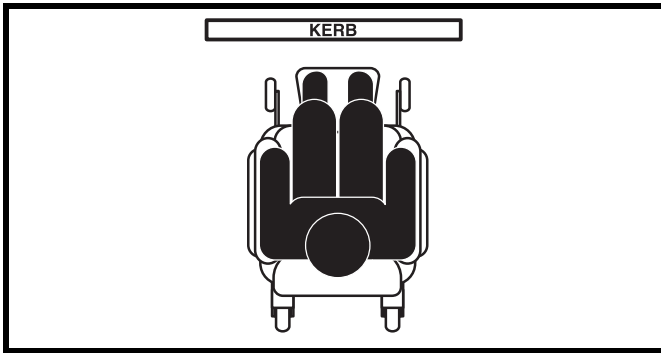

Figure 2. Correct Kerb Approach
Proceed with extreme caution when driving near raised surfaces, unprotected ledges, and/or drop-offs (kerbs, porches, stairs, etc.). Be sure your power chair is traveling perpendicular to any kerb you may be required to navigate. See figure 2.
1. Approach the kerb or obstacle slowly, and make sure the power chair is traveling perpendicular to the obstacle. See figure 2.